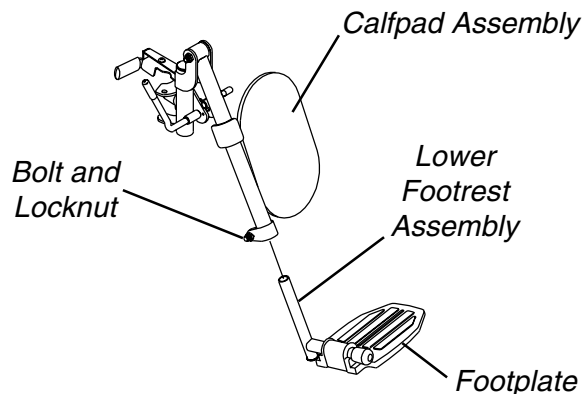

FIGURE 4 - INSTALLING LOWER FOOTREST ASSEMBLY
**ELEVATING LEGREST ASSEMBLY INSTALLATION (FIGURES 4 AND 5)**
1. Insert the lower footrest assembly into the calypad assembly and secure it with the bolt and locknut (FIGURE 4).